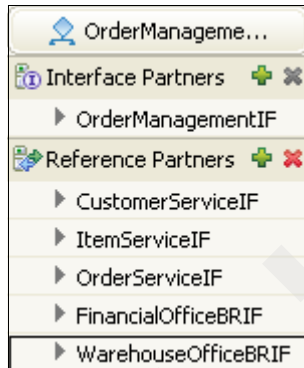

Figure 3-56 Adding the rule reference partners to OrderManagementBP
2. Add the FinancialOfficeBRIF and WarehouseOfficeBRIF to the process, as shown in Figure 3-56.